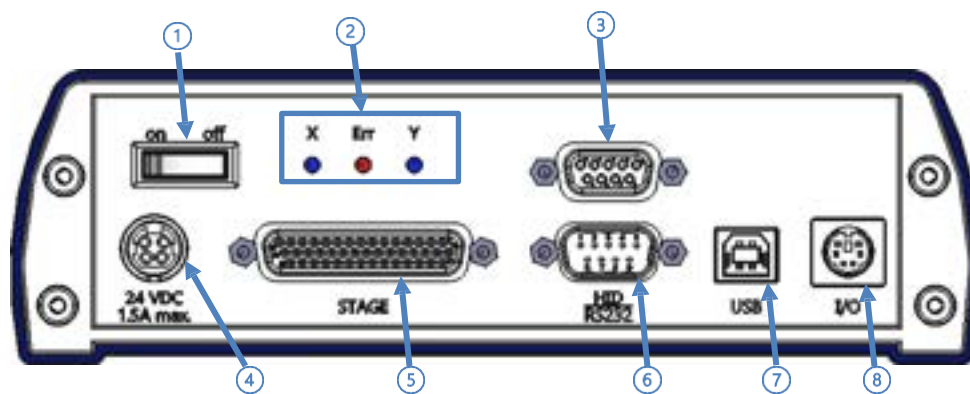

figure 1
Switching off at the ON/Off switch (Fig. 1/1) switches off only the internal controller. The mains power supply to the table-top power supply unit is not switched off. If the controller is not going to be used for some time, withdraw the mains plug for the power supply unit from the socket.
- Make sure the controller is switched off, the in-/out-flip switch is "off" (figure 1/1).
- Set the on/off switch (figure 1/1) on „on“.
- Turn off the controller after each use with the on/off switch (figure 1/1).